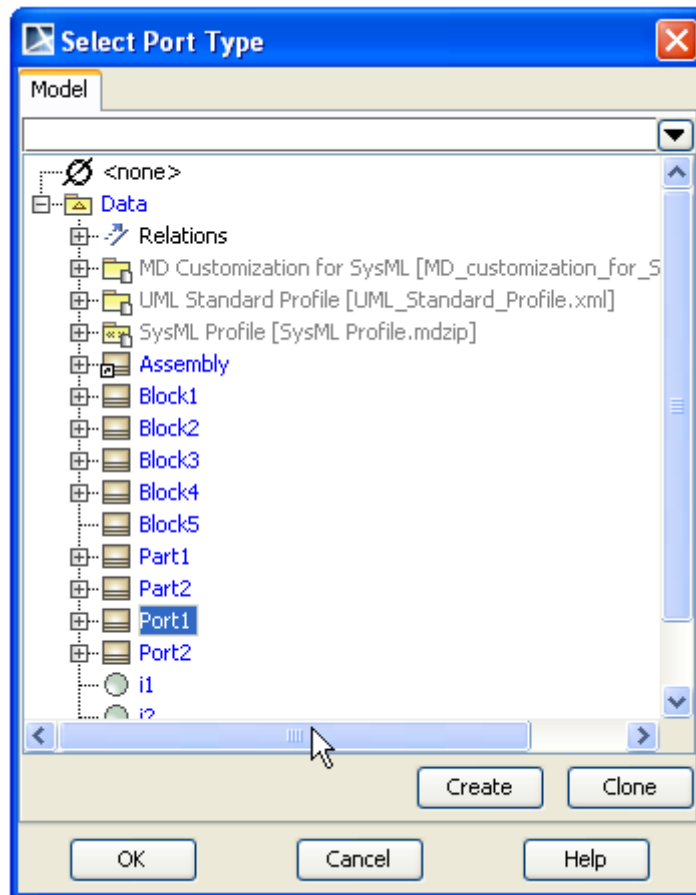

Figure 106 -- Select Port Type Dialog
3. Select a port type in the **Select Port Type** dialog (Figure 106). The flow port will then be created, having an 'inout' direction.